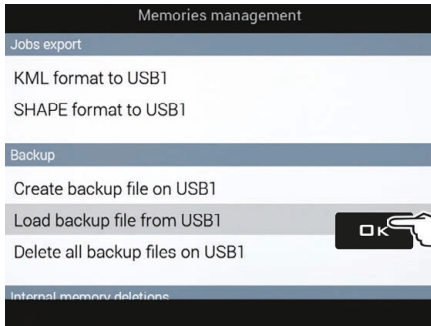

Fig. 308
- Select **Load backup file from USB1** (Fig. 308) and press **OK**.